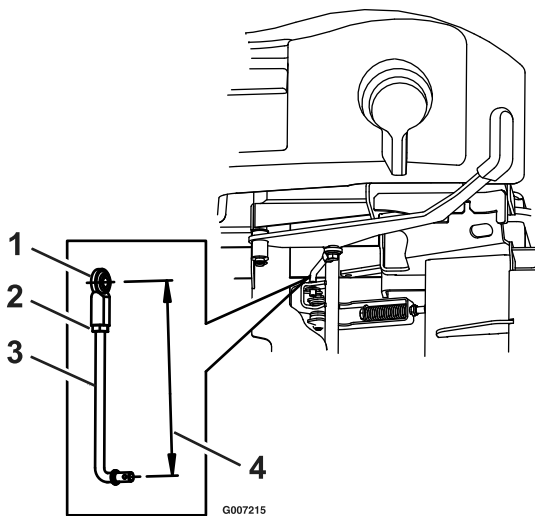

Figure 16
- If park brake does not fully disengage when the lever is disengaged check the brake rod linkage assembly. The assembly should measure 7 3/8 inches (18.7 cm) from the center of the ball joint to the center of the lower end of the linkage rod (see Figure 16).